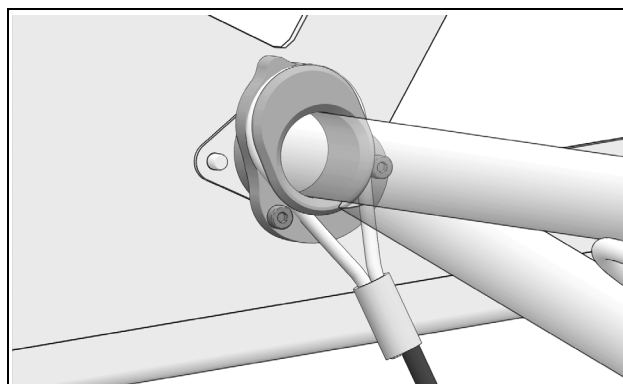

Figure 17
- **Short position:** powder snow conditions. Figure 17.